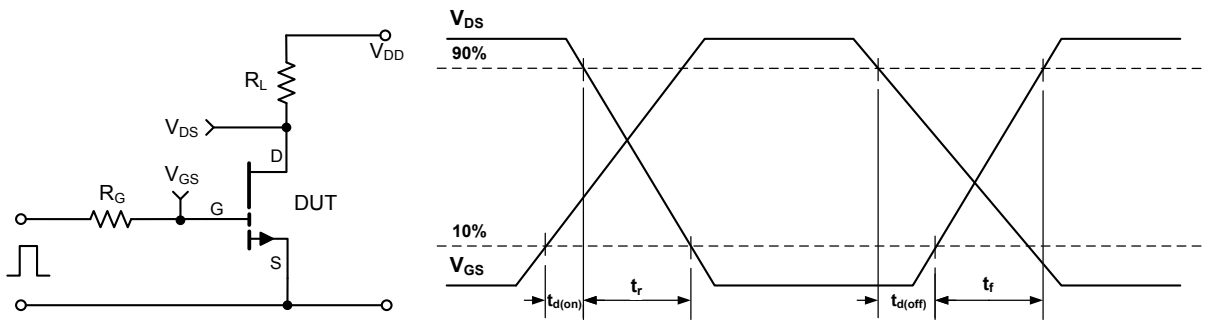

Figure 12: GS66508T switching time test circuit and waveforms
(5) See Figure 12 for timing test circuit diagram and definition waveforms